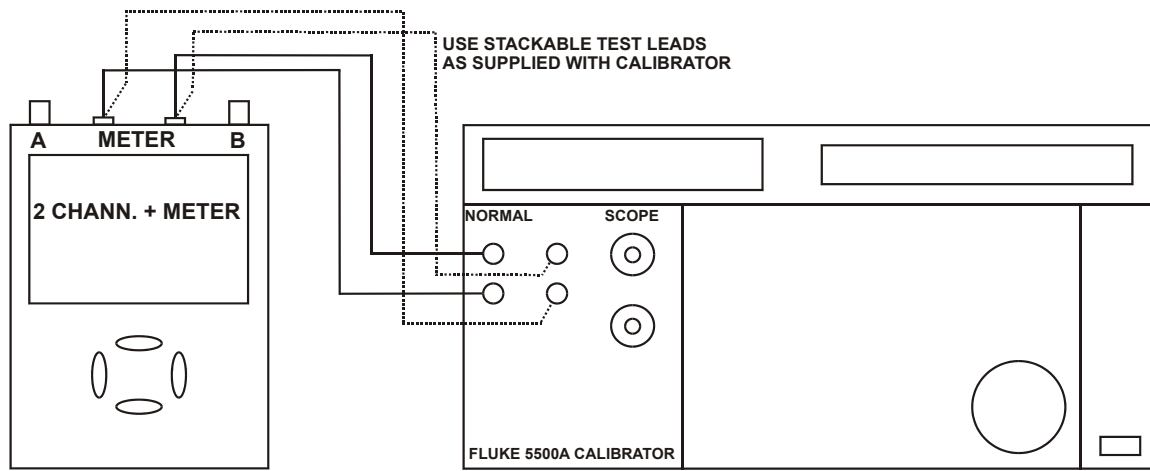

Figure 4-22. Test Meter Tool Input to 5500A Normal Output 4-Wire
1. Connect the test tool to the 5500A as shown in Figure 4-22.